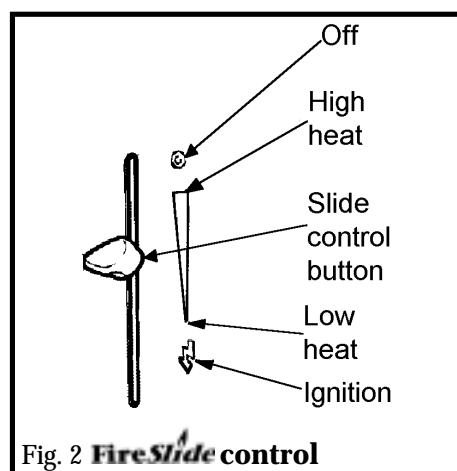

Fig. 2 **FireSlide** control
The **FireSlide** control is shown in figure 2.
3. If low heat is required, release the button. The button will automatically spring up to the low heat position shown in figure 2 (See note i below).
4. For a higher heat level slide the button upwards. The burner flames and heat output will gradually increase until the button reaches the high heat position shown in figure 2. When the button reaches the high heat position you will feel a check to its movement. ***Do not slide the button above the high heat position unless you want to turn the fire off*** (See note i below).